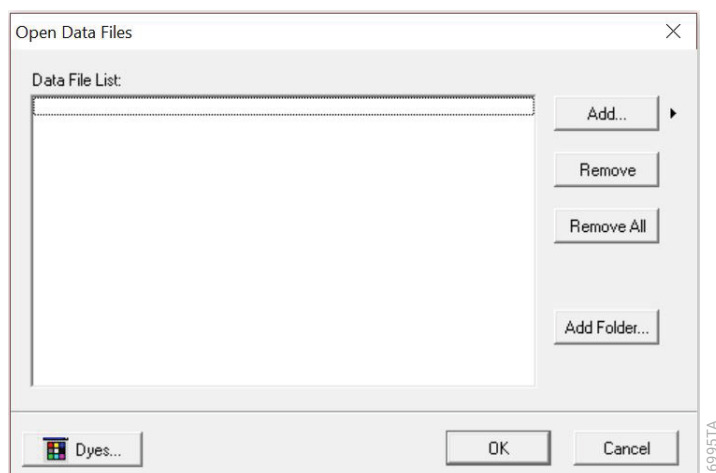

Figure 21. The GMHID-Spectrum Data File List.
4. Select **Open**, and the selected files will appear in the Data File List (Figure 21).